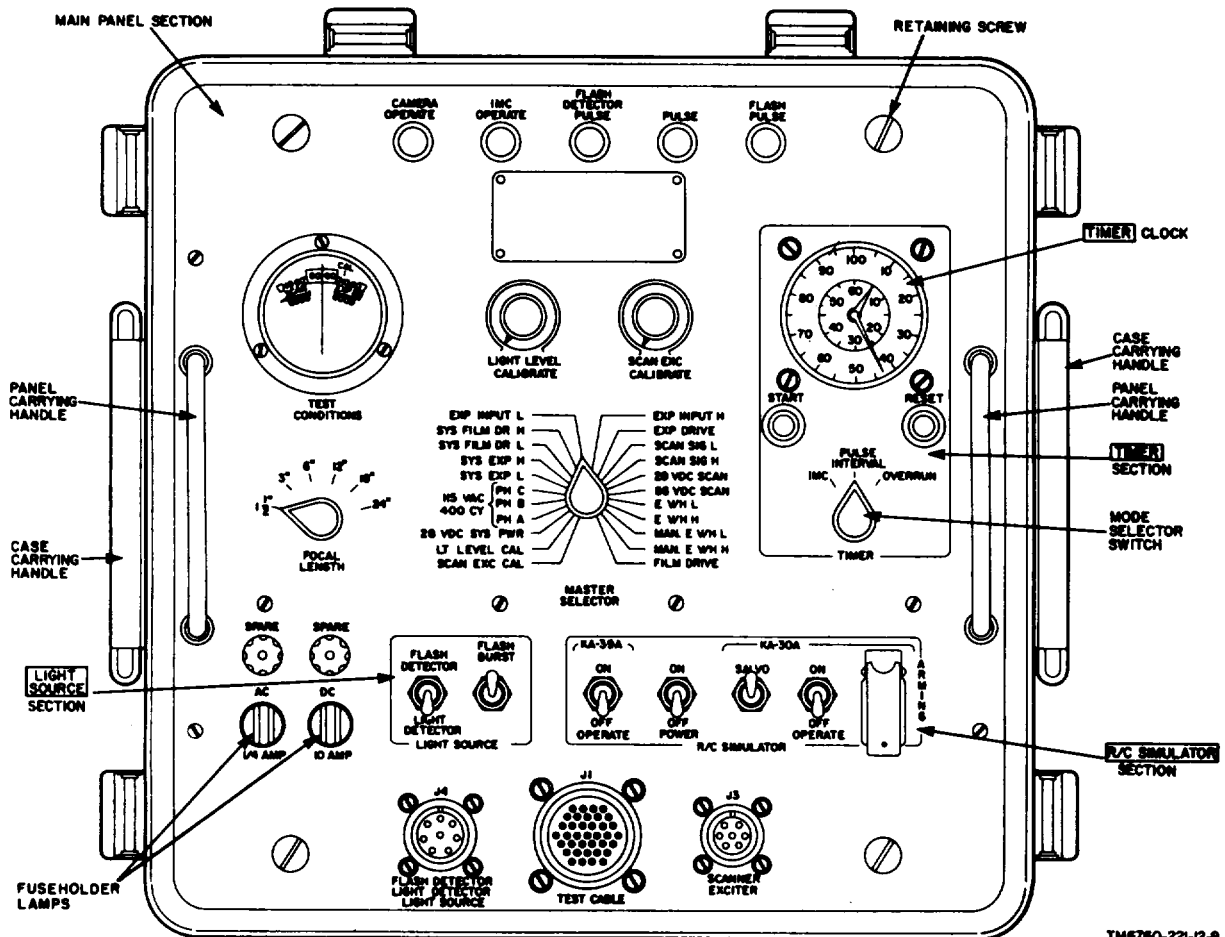

Figure 9. System analyzer controls and indicators.
- c.* Set the POWER switch (fig. 9) to OFF.
a. *Control and Indicators* (fig. 9). The following chart lists the system analyzer controls and indicators.
FLASH DETECTOR-LIGHT DETECTOR-LIGHT SOURCE connector J4 (fig. 9). TEST CABLE connector J1.	Eight-pin female connector; provides for connection of light source to analyzer.